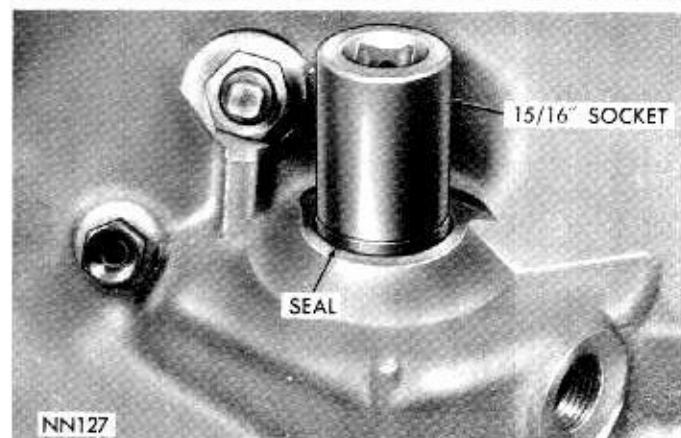

Fig. 25—Installing Valve Body Manual Lever Shaft Oil Seal
(9) If valve body manual lever shaft seal requires replacement, drive it out of the case with a punch.
(10) Drive a new seal in the case with a 15/16 inch socket and hammer (Fig. 25).